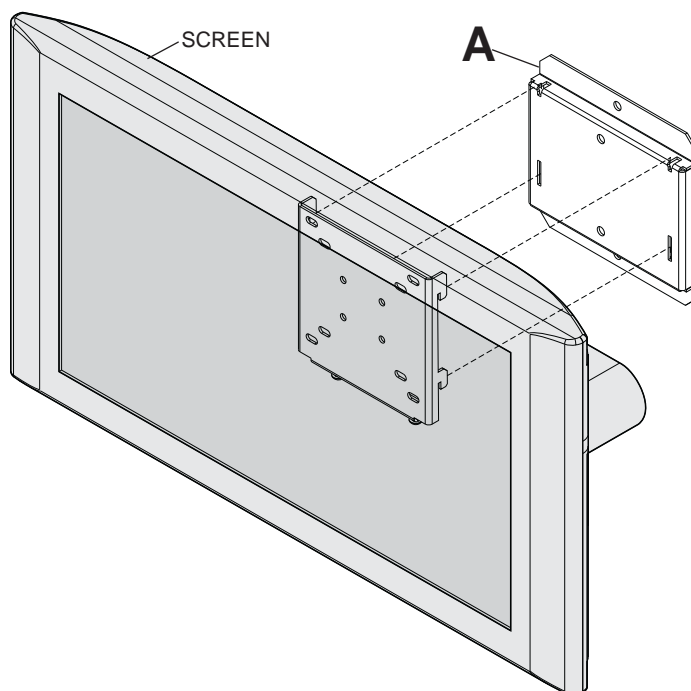

fig. 6.1
- 6** Hook screen onto wall plate (A) figure 6.1. Tighten M5 x 12 mm screws (C), shown in figure 6.2 and detail 1.